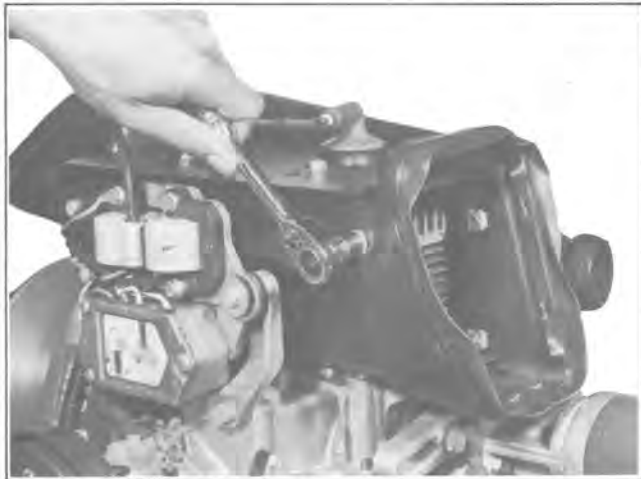

Figure 9-2
- b. Remove five screws engine air shields to exhaust air outlet housing. See Figure 9-2.